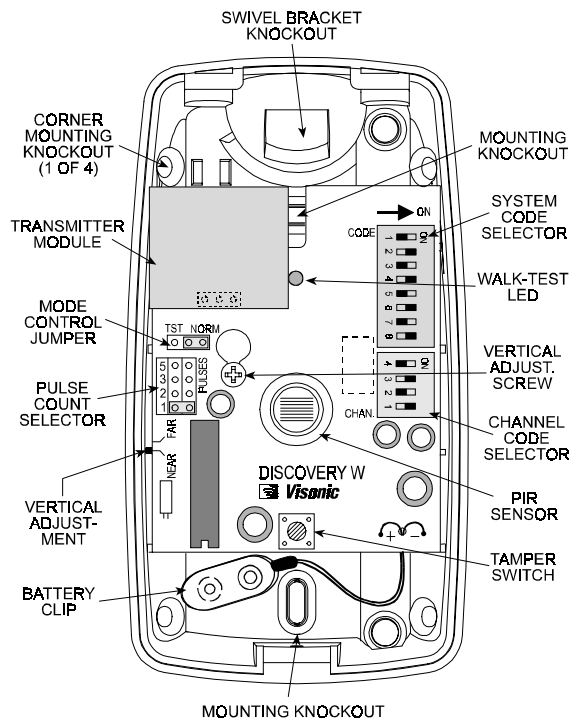

Figure 4. Inside View
- B. Loosen the vertical adjustment screw, slide the PCB down and remove it via the "keyhole" (see Figure 4).
- D. Refer to Figure 4 and punch out the mounting knockouts at the rear wall of the base (for surface mounting) or mounting knockouts at the angled sides of the base (for corner mounting).